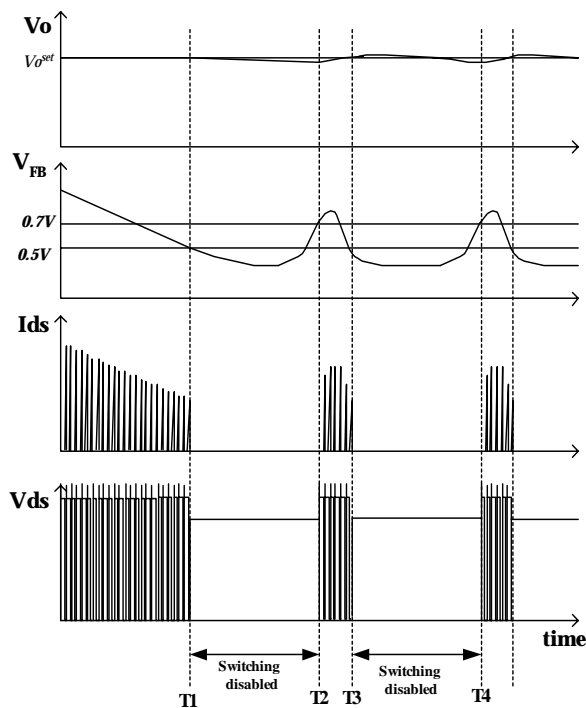

Figure 8. Waveforms of burst operation
5. Burst operation : In order to minimize power dissipation in standby mode, the FSDM07652RB enters burst mode operation. As the load decreases, the feedback voltage decreases. As shown in Figure 8, the device automatically enters burst mode when the feedback voltage drops below $V_{BURL}(500mV)$. At this point switching stops and the output voltages start to drop at a rate dependent on standby current load. This causes the feedback voltage to rise. Once it passes $V_{BURH}(700mV)$ switching resumes. The feedback voltage then falls and the process repeats. Burst mode operation alternately enables and disables switching of the power Sense FET thereby reducing switching loss in Standby mode.